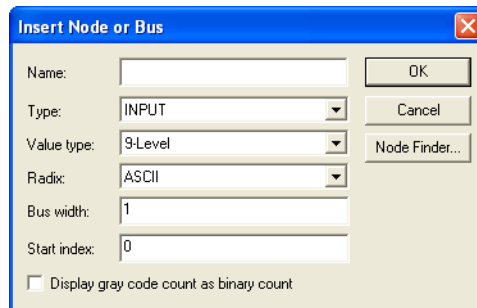
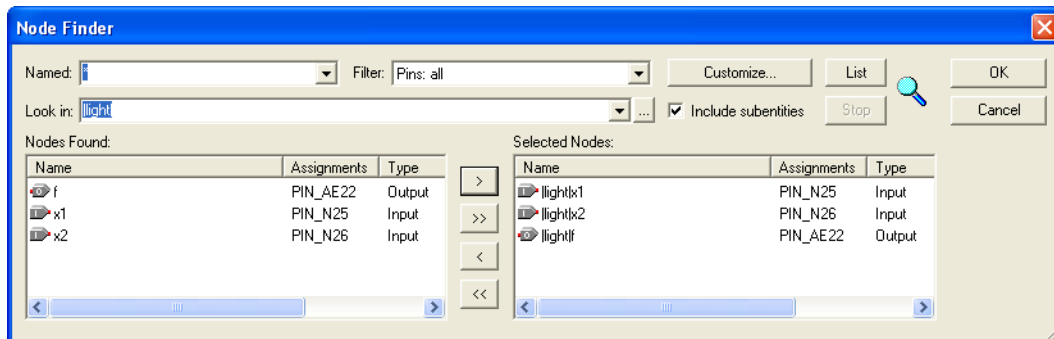
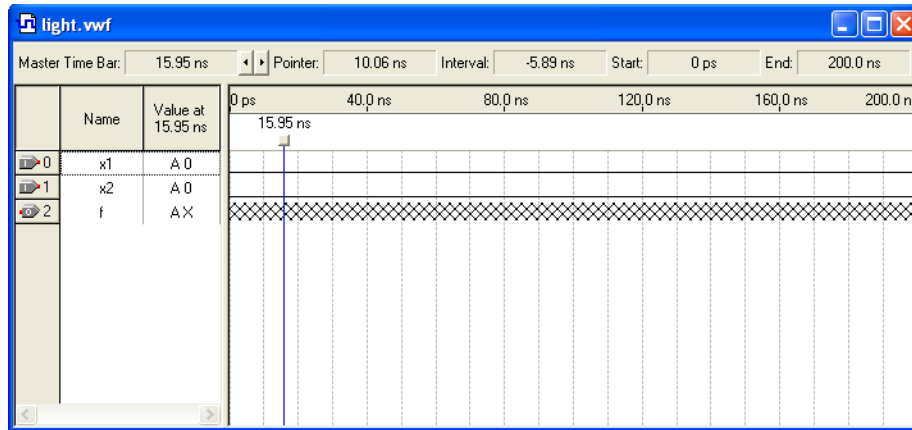

Figure 31. The Insert Node or Bus dialogue.
Figure 32. Selecting nodes to insert into the Waveform Editor.
Figure 33. The nodes needed for simulation.
- Next, we want to include the input and output nodes of the circuit to be simulated. Click **Edit > Insert > Insert Node or Bus** to open the window in Figure 31. It is possible to type the name of a signal (pin) into the Name box, but it is easier to click on the button labeled **Node Finder** to open the window in Figure 32. The Node Finder utility has a filter used to indicate what type of nodes are to be found. Since we are interested in input and output pins, set the filter to **Pins: all**. Click the **List** button to find the input and output nodes as indicated on the left side of the figure.
Click on the  $x1$  signal in the Nodes Found box in Figure 32, and then click the  $>$  sign to add it to the Selected Nodes box on the right side of the figure. Do the same for  $x2$  and  $f$ . Click OK to close the Node Finder window, and then click OK in the window of Figure 31. This leaves a fully displayed Waveform Editor window, as shown in Figure 33. If you did not select the nodes in the same order as displayed in Figure 33, it is possible to rearrange them. To move a waveform up or down in the Waveform Editor window, click on the node name (in the Name column) and release the mouse button. The waveform is now highlighted to show the selection. Click again on the waveform and drag it up or down in the Waveform Editor.